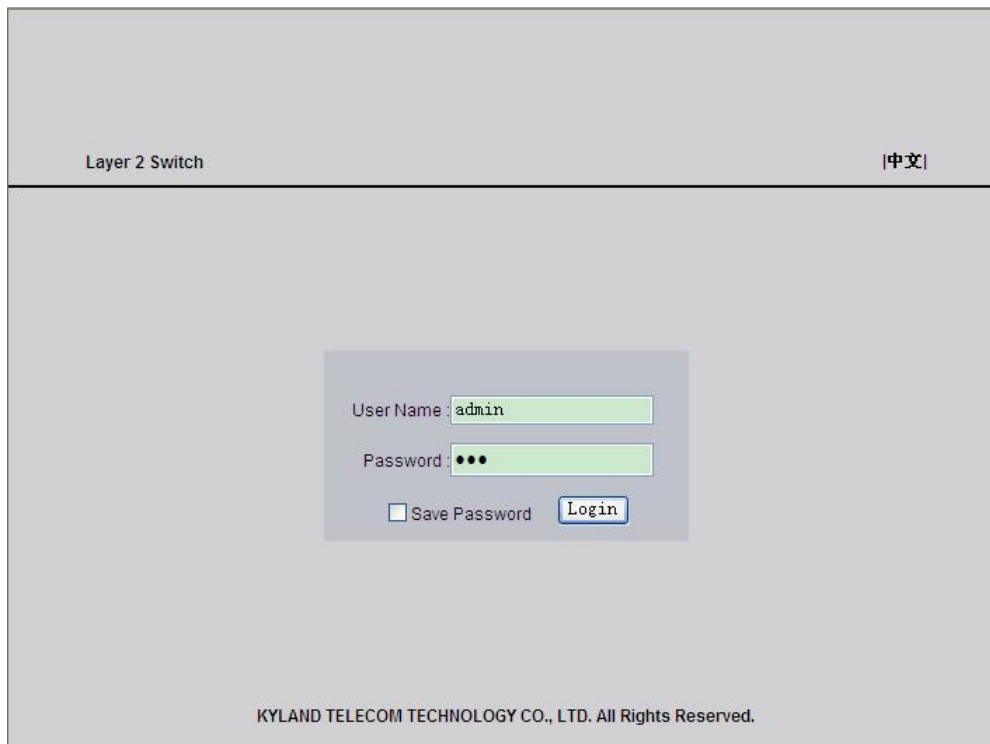

Figure 31 Login Dialog Box
Step 2: Enter the IP address of the switch in the address box of the browser. The default IP address of a Kyland switch is 192.168.0.2. The user login interface is displayed, as shown in Figure 31. You can log in to the Web UI of the switch by user name "admin" and password "123".